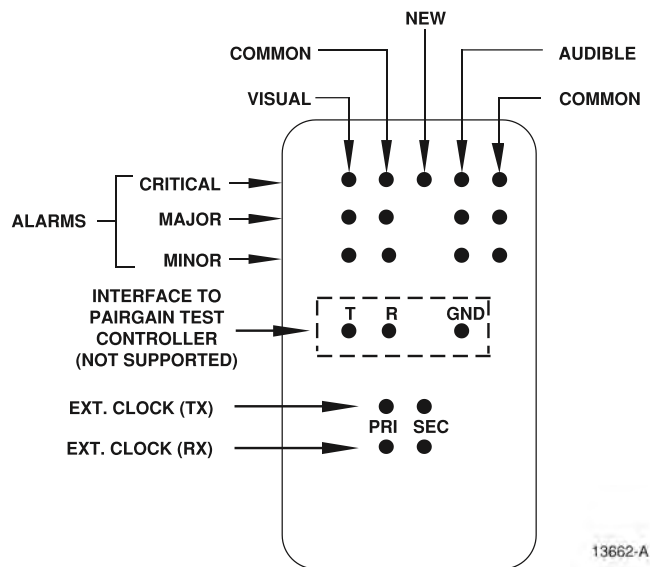

Figure 2-9. Upper Wire-Wrap Pin Terminal Block
Wire-wrap pins for connecting local alarm system wiring are provided on the upper wire-wrap pin terminal block as shown in Figure 2-9. Separate dry contacts are provided for the **CRITICAL**, **MAJOR**, and **MINOR (VISUAL and AUDIBLE)** alarms from the shelf. The SCNU has a normally closed contact that actuates a **MAJOR VISUAL** alarm if shelf power is lost. Sending of alarms is software controlled except in the event SCNU power is lost.
The HDT may be provisioned to use either line timing or an external timing source. Wire wrap pins for connecting the primary and secondary Building Integrated Timing Supply (BITS) clock wiring are provided on the upper wire wrap terminal block (see Figure 2-9). The BITS clock may be either SF or ESF format. The HDT does not support the use of a Composite Clock (CC) for a BITS clock.